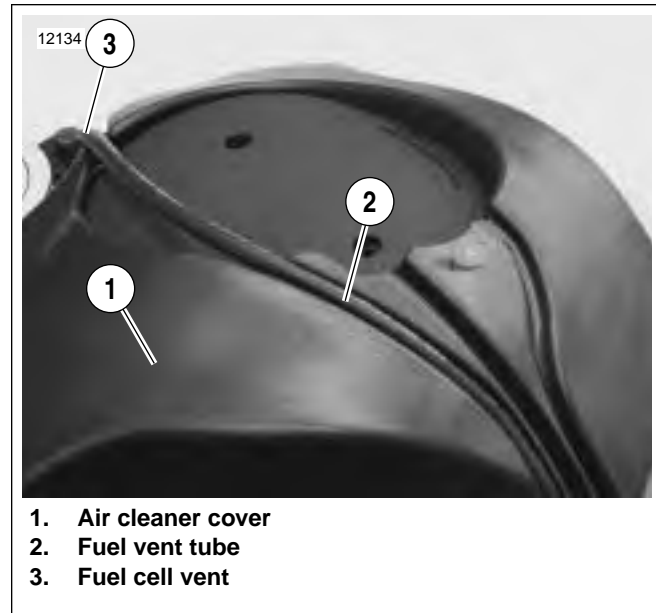

Figure 4-114. Air Cover (XB9SX “Translucid” model)
2. See Figure 4-114. Remove fuel vent tube (2) from fuel cell vent (3) and groove on top of air cleaner cover (1).